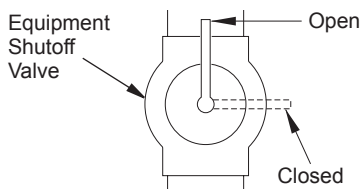

Figure 25 - Equipment Shutoff Valve
1. Close equipment shutoff valve (see Figure 25).
1. Open equipment shutoff valve (see Figure 25, page 19).